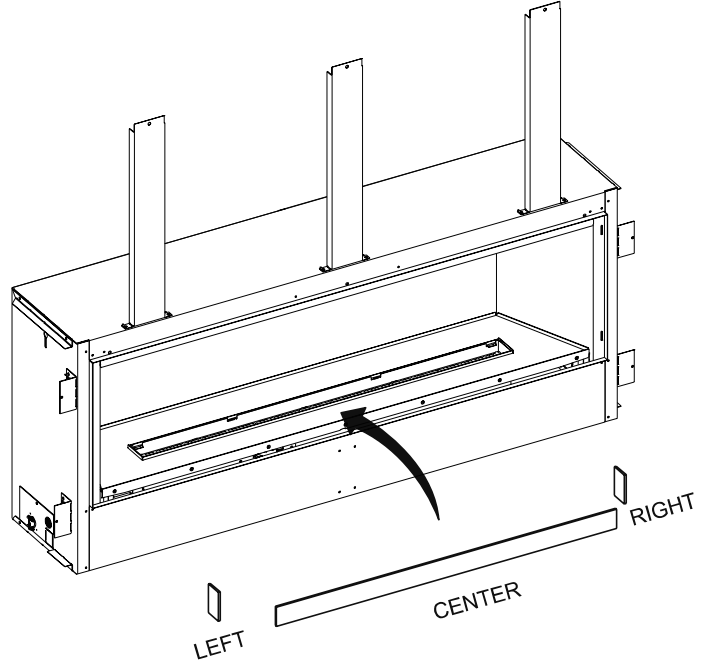

Figure 52
5. Retrieve the 3 glass panels and install on front and both sides of burner. See **Figure 52**.